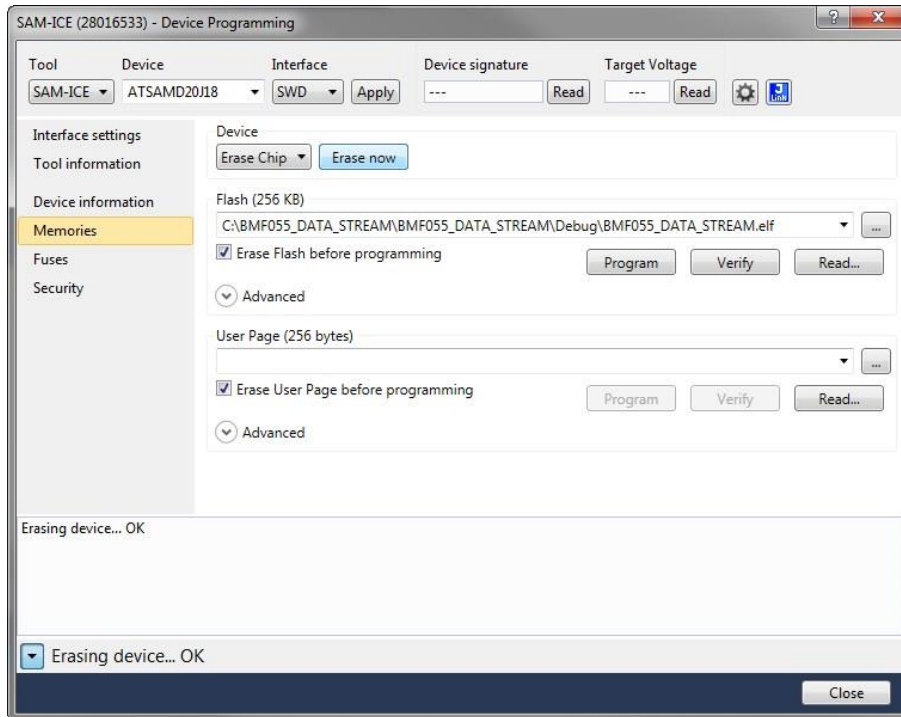

Figure 9 - Atmel Studio, Device Programming, Memories
- Go to *Memories* and click on *Erase now*. You should see the message “Erasing device... OK”. (Figure 9)